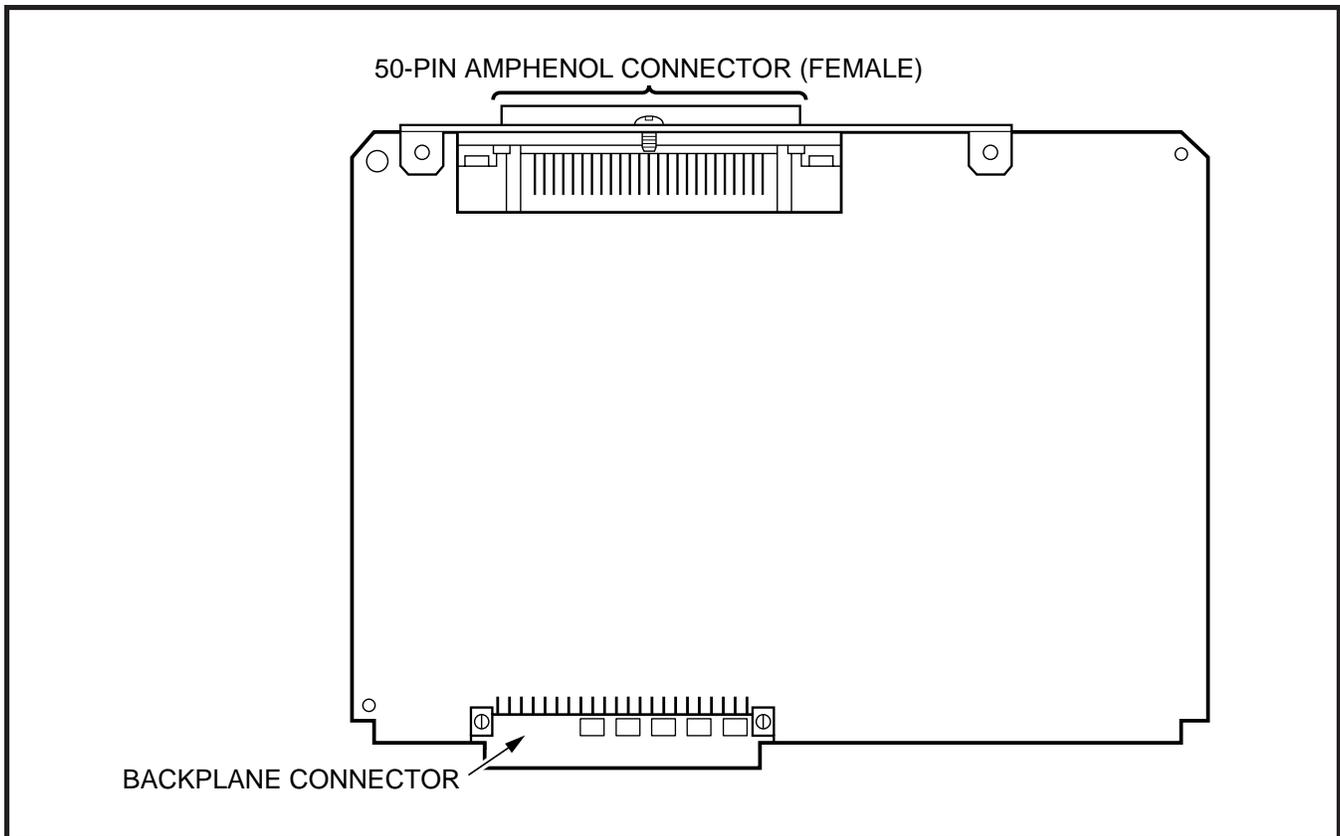

FIGURE 6-4
4.04 There are no controls or indicators on the PDKU (Figure 6-4).